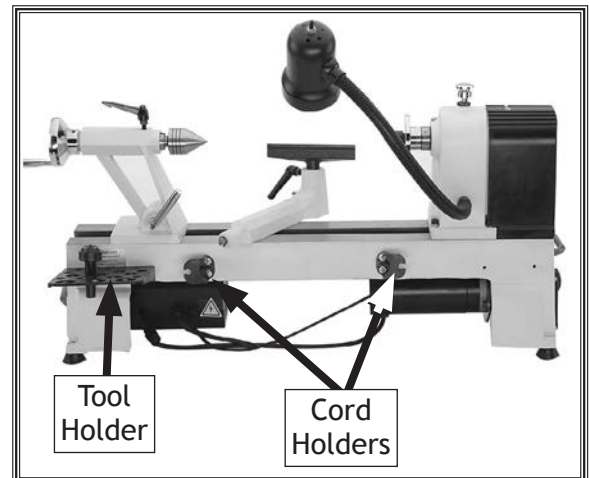

Figure 11. Tool holder and cord holder installed.
2. Attach cord holder brackets to back of lathe bed with (4) M5-.8 X 12 Phillips head screws and (4) 5mm flat washers (see **Figure 11**).
3. Attach tool holder to back of lathe bed using (2) M5-.8 X 12 Phillips head screws and (2) 5mm flat washers (see **Figure 11**).